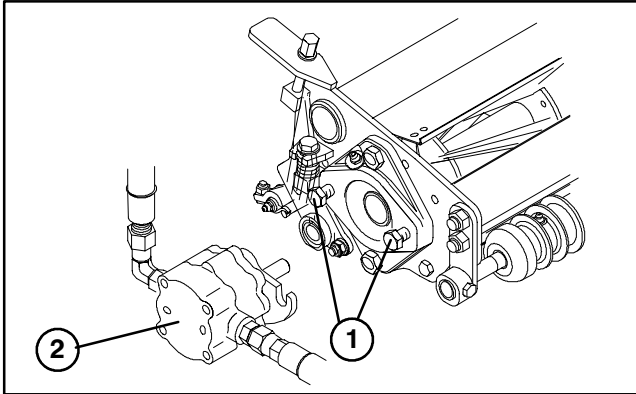

Figure 10
7. Assemble the mounting capscrews for the reel drive motor to each cutting unit. Leave approximately 1/2 in. of threads exposed on each mounting capscrew (Fig. 10).
10. Coat the spline shaft of the motor with clean grease and install the motor by rotating the motor clockwise so the motor flanges clear the studs. Rotate the motor counterclockwise until the flanges are encircling the studs and tighten the mounting capscrews (Fig. 10).